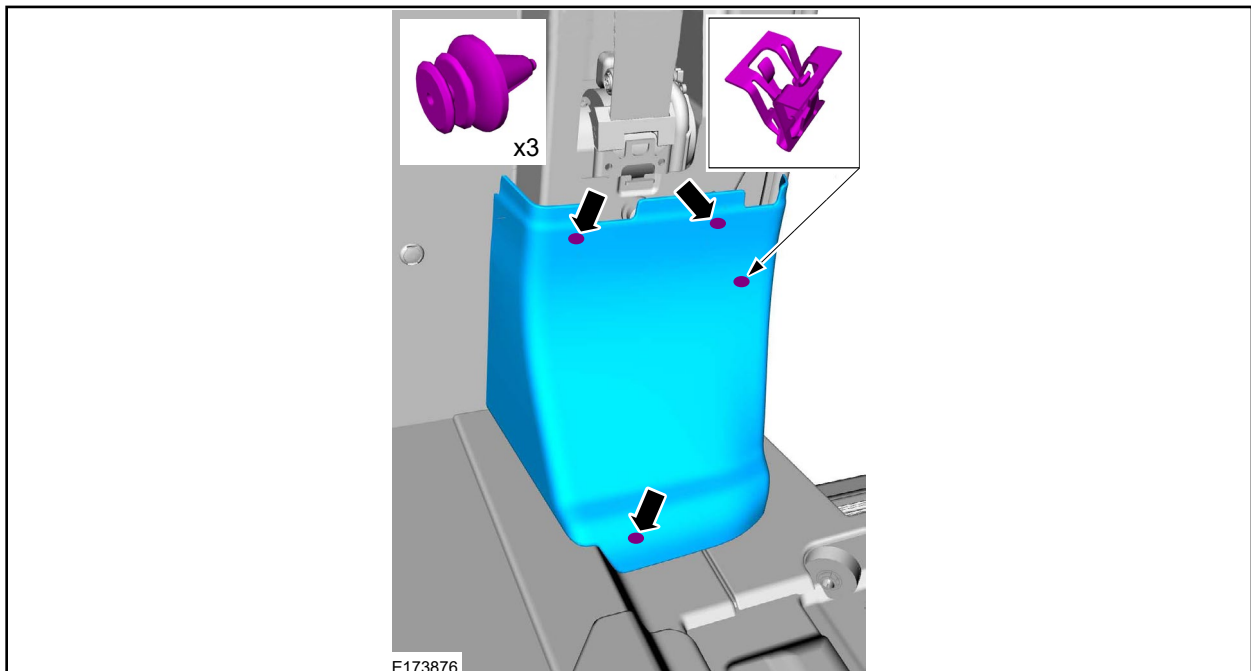

FIGURE 2
2. Release the clips and remove the LH side lower B-pillar trim panel. See Figure 2.